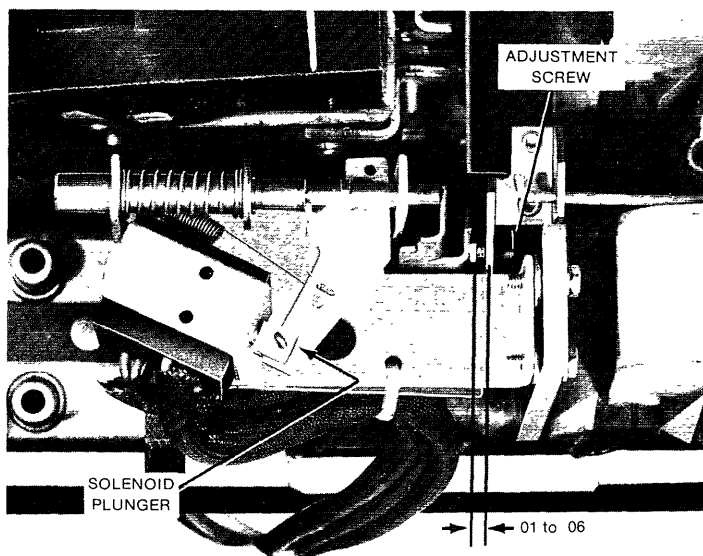

Figure 5
5. Adjust screw to dimension shown with circuit breaker in the "ON" position. (Flux shifter in opposite pole must be held in place to prevent nuisance tripping). (Figure 5)
- b. Being careful to keep hands and fingers clear of circuit breaker contact arms, pull solenoid plunger (Figure 5). Breaker should trip. If not, retrace step 5.